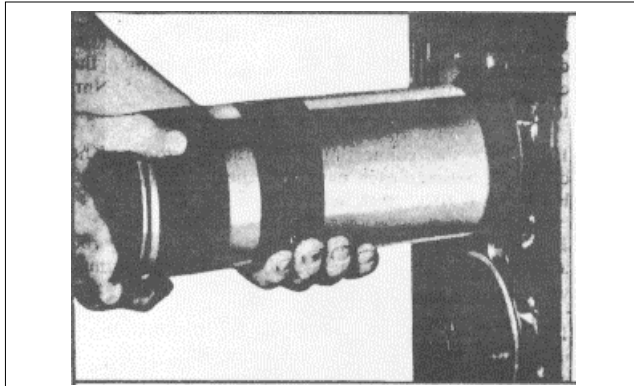

Fig. 9 Installing Piston, Connecting Rod and Liner Assembly in Cylinder Block
- (4) Rotate the crankshaft until the connecting rod journal of the particular cylinder being worked on is at the bottom of its travel. Wipe the journal clean and lubricate it with clean engine oil.
- (5) Install the upper bearing shell the one without the continuous oil groove in the connecting rod. Lubricate the bearing shell with clean engine oil.
- (6) Position the piston, rod and liner assembly in front of the cylinder block bore so that the identification number and letter on the connecting rod face the outer edge of the cylinder block and the matchmarks on the liner and the block are in alignment. Guide the end of the connecting rod through the block bore carefully to avoid damaging or dislodging the bearing shell. Then slide the piston, rod and liner assembly straight into the block bore (Fig. 9) until the liner flange rests against the insert in the counterbore in the block.
- (7) Push or pull the piston and connecting rod into the liner until the upper bearing shell is firmly seated on the crankshaft journal. Note: Be sure the marks on the end of the connecting rod cap bolts are parallel with each other. This indicates proper alignment of